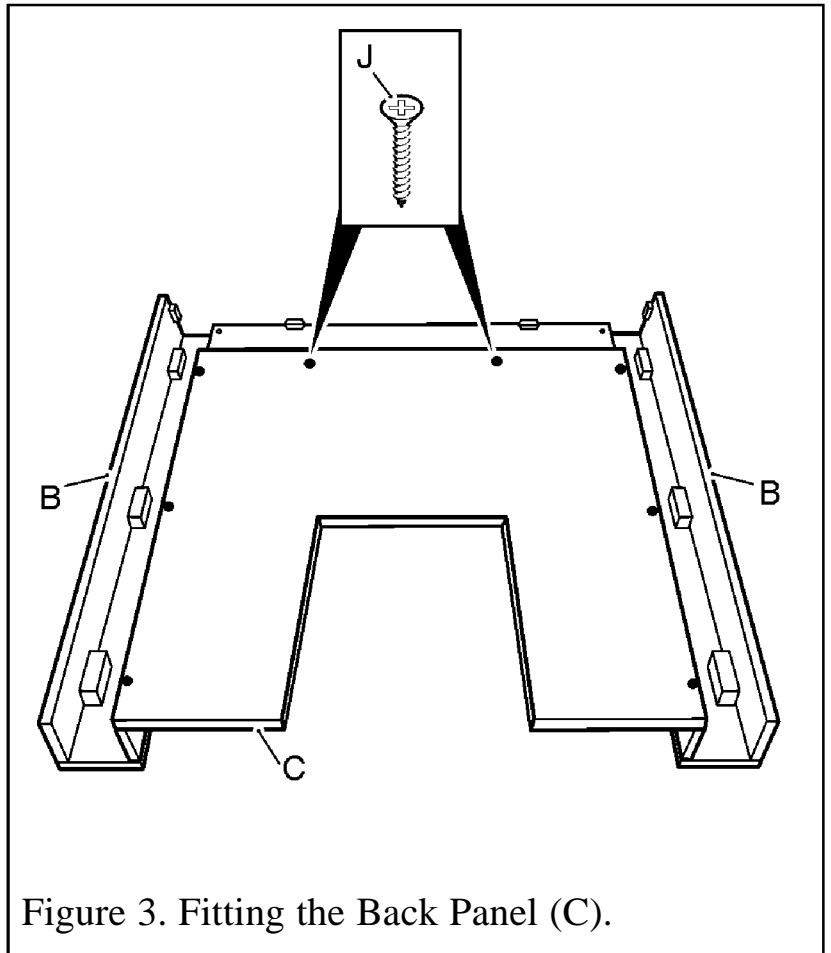

Figure 3. Fitting the Back Panel (C).
- Locate the back panel (C) on top of the inner legs as in figure 3. The bottom of the back panel should be level with the bottom of the leg rails.
- Secure to the surround using 8 (J) screws.